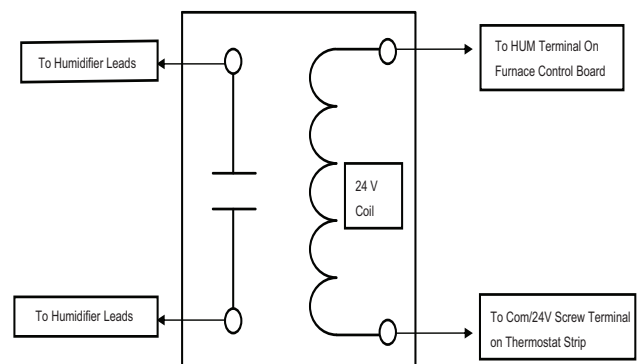

Fig. 36 – Field-Supplied Isolation Relay for Humidifiers with Internal Power Supply A11157
**NOTE:** If the humidifier has its own 24 VAC power supply, an isolation relay may be required. Connect the 24 VAC coil of the isolation relay to the HUM and COM/24V screw terminal on the control board thermostat strip. See Fig. 36.